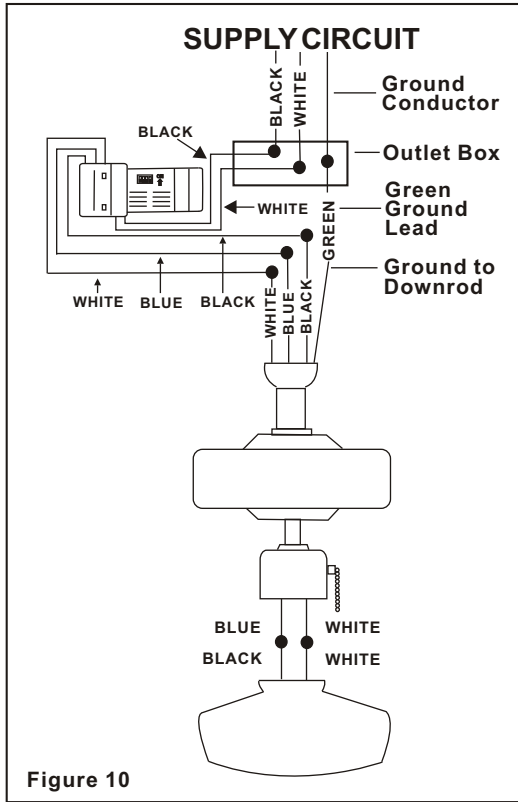

Figure 10
Step 2. (Figure 10) Motor to Receiver Electrical Connections: Connect the black wire from the fan to black wire marked "TO MOTOR L". Connect the white wire from the fan to the white wire marked "TO MOTOR N" from the receiver. Connect the blue wire from the fan to the blue wire marked "For Light" from the receiver. Secure the wire connections with the plastic wire nuts provided.
Step 3. (Figure 10) Receiver to House Supply Wires Electrical Connections: Connect the black (hot) wire from the ceiling to the black wire marked "AC in L" from the receiver. Connect the white (neutral) wire from the ceiling to the white wire marked "AC in N" from the Receiver. Secure the wire connections with the plastic wire nuts provided.
Step 4. (Figure 10) If your outlet box has a ground wire (green or bare copper) connect it